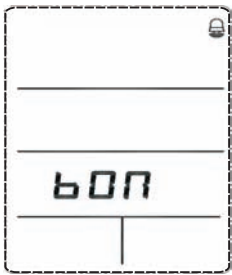

Figure 16
**Notes:** When choosing **bON** and pressing "OK", the buzzer will be opened and the sign of ring at the upper right corner of LCD will display, as shown in Figure 16. While choosing **bOFF** and pressing "OK", the buzzer will be closed and the sign of ring will not display. The system default status of the buzzer is closed.